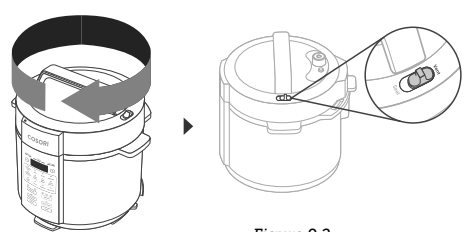

Figure 9.2
- 2. Close the lid on the pressure cooker and turn clockwise to secure. Move the steam release switch to 'Vent'. [Figure 9.2]